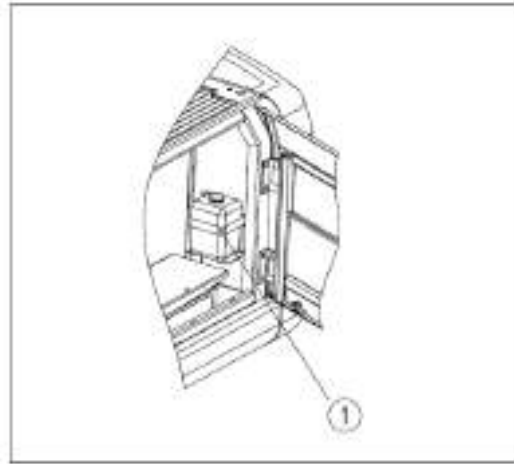

Figure 4-4 Reserve water tank
a). Open the left rear door of the machine to check the reserve water tank ① shown in Figure 4-4.